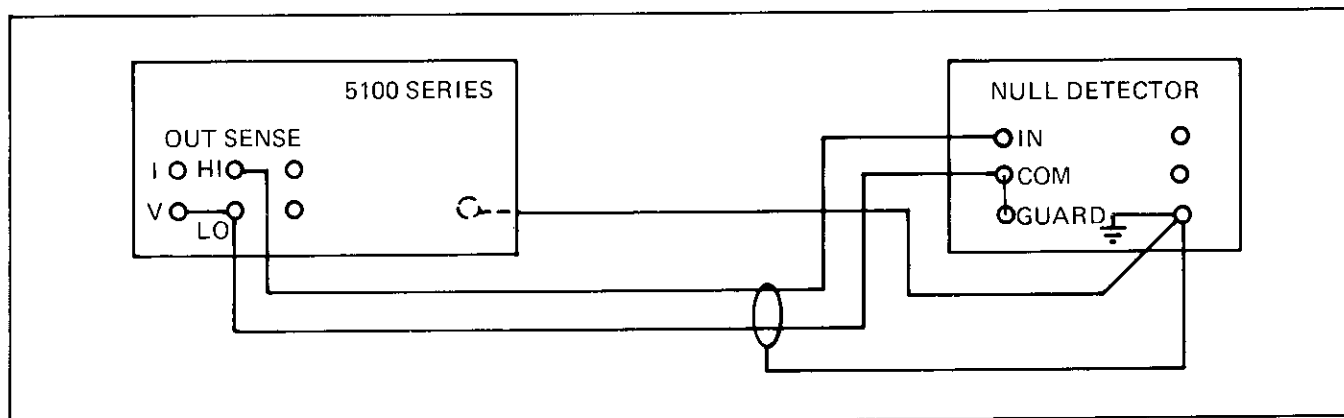

Figure 4-3. Offset Voltage Checks
3. Prepare the test null detector to read a null ± 5 μ V, then connect the equipment as shown in Figure 4-3.